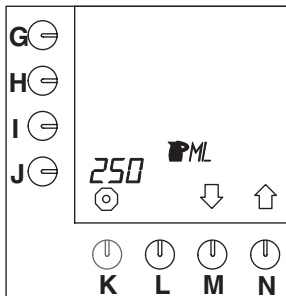

Fig. 26 Jug contents
- Press selection key (N.)↑ until fig.26 appears on the display.